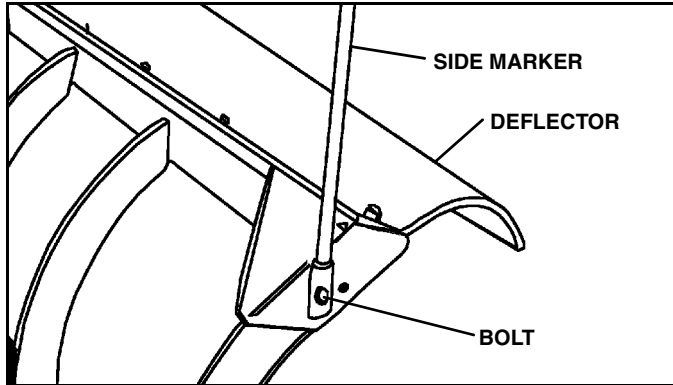

Figure 1-8
13. Remove the two (2) 5/16 x 2" cap screws, flat washers, and the two (2) spacers (#96102938) from the parts bag. Install the center deflector (shipped loose in the Power Pack carton) using the two (2) spacers, 5/16 x 2" cap screws and flat washers removed earlier. Torque to 15 lb-ft.
15. Install blade guides (blade side markers) to holes in outside blade ribs, secure using hardware supplied with Blade Guide Kit. (See Figure 1-8).